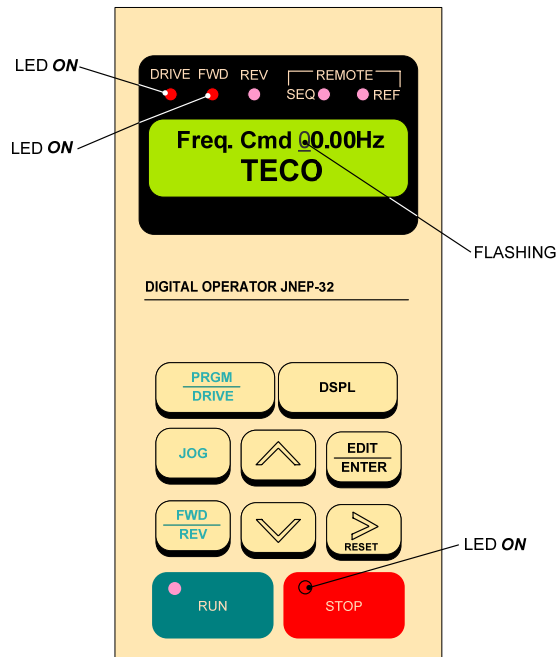

Fig. 1 PA7300 KEYPAD
- Apply AC power to the Inverter and observe the LCD Display Line 1; it should read "Freq. Cmd 00.00Hz". Line 2 should read "TECO". The red LED on the **STOP** key should be ON. The **DRIVE** and **FWD** LED's should be ON. (See Fig. 1 below)
Press the  Key to return to the output frequency display as in Fig. 1.
Press the  to return to the output frequency display as in Fig. 1.